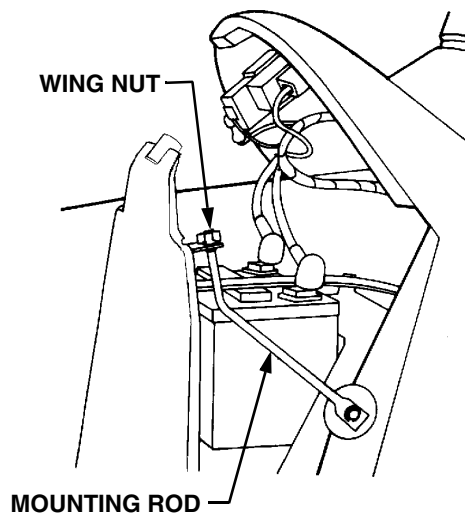

Figure 26
2. Remove the wing nut securing the mounting rod to the bulkhead mounting bracket (Refer to Figure 26) and pull the rod downward from the bulkhead bracket.
8. Rotate the mounting rod downward and insert through the bottom of the hole in the bulkhead mounting bracket (See Figure 26).